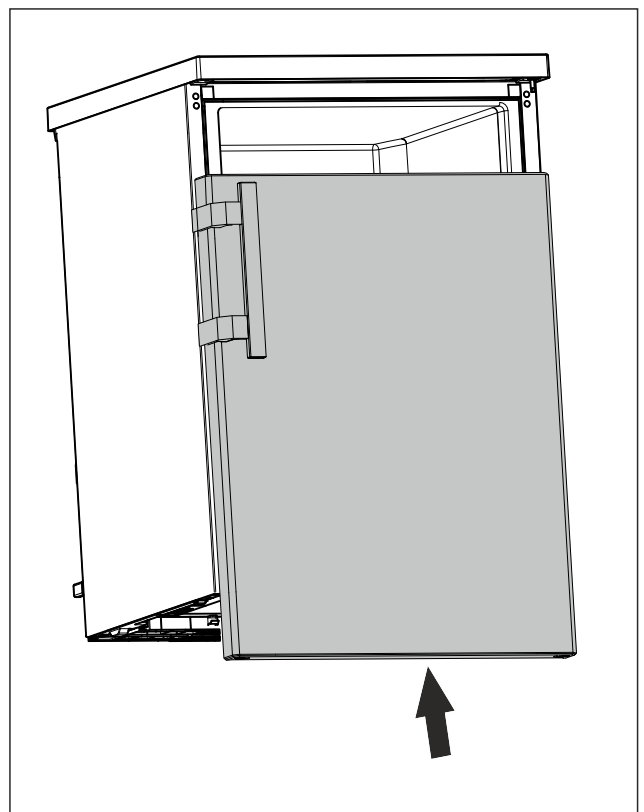

Fig. 22
- Slide the door onto the upper bolt in closed status. (see Fig. 22)